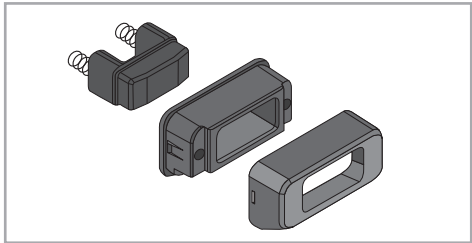

Figure 33: Parts of the door catch
Step 1 - Assemble the door catch in the order shown in Figure 33. Ensure the springs remain in place.